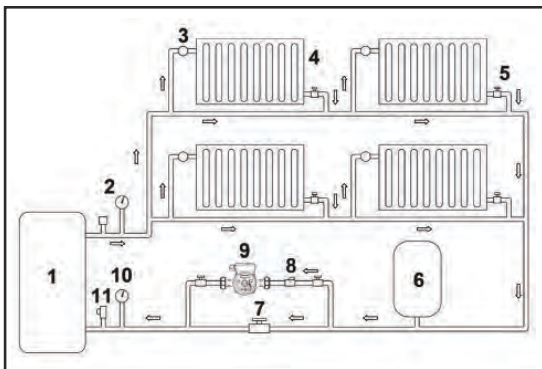

Рис. 2 Положения насоса при монтаже
**ATTENTION!** The circulation pump must be installed in such a way as to ensure the position of the pump shaft axis is strictly horizontal, and the terminal box is from above or from the side (Fig. 2).
An arrow on the end of the cover indicates the direction of flow (fig. 2).